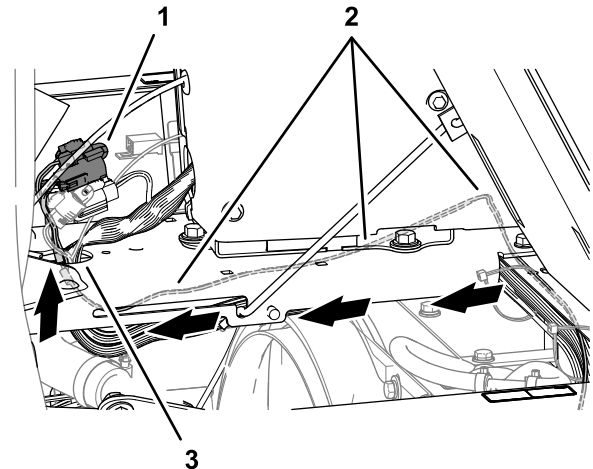

Figure 172
7. Route the ISO-CAN bus harness under the console base and along the machine wire harness (Figure 172).
8. Route the 3-pin connector (labeled To TORO CANBUS) and 3-socket connector (labeled CAN PORT A) of the ISO-CAN bus harness through the hole in the console base (Figure 172).